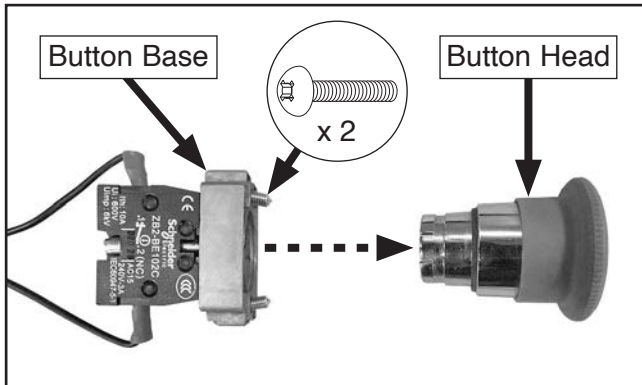

Figure 41. Gantry EMERGENCY STOP button components.
10. Loosen (2) Phillips head screws on gantry EMERGENCY STOP button (see **Figure 41**).
11. Separate EMERGENCY STOP button head from button base by turning head counter-clockwise and pulling apart (see **Figure 41**).